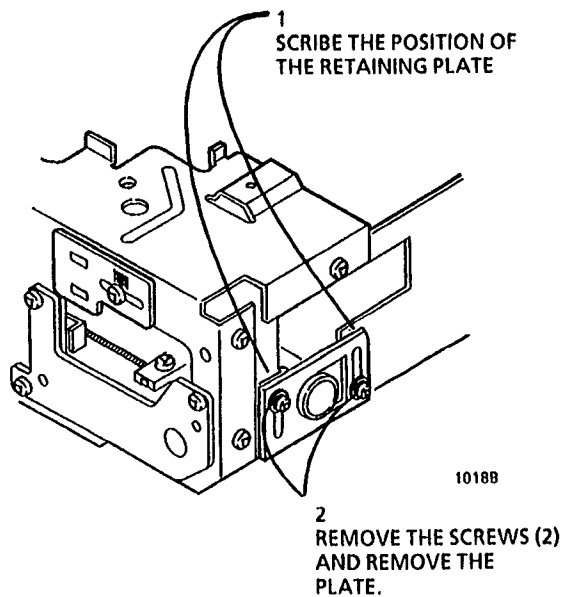

Figure 4. Scribing and Removing the Retaining Plate
7. (Figure 4): Scribe the position of the retaining plate and remove it.